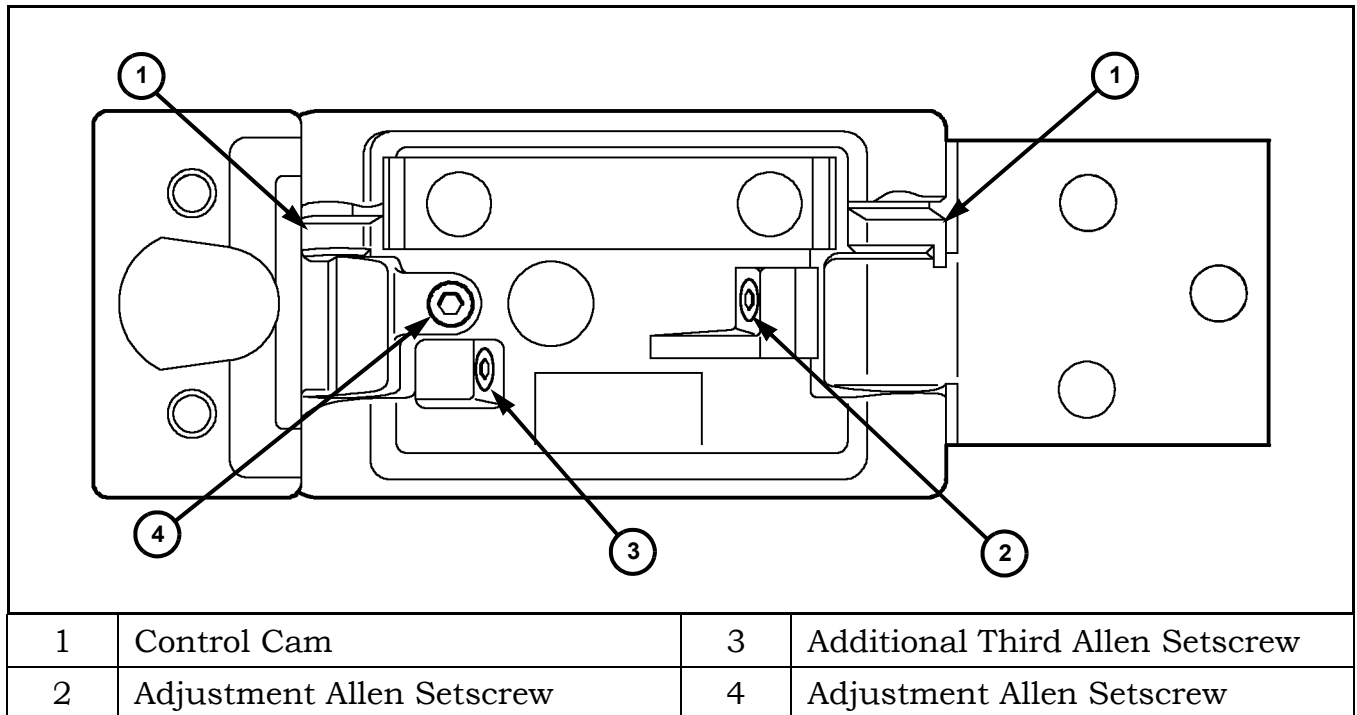

Figure 25 Rear Hinge Adjustment Setscrews
12. Check and adjust the hinges. On rear doors, the retaining magnets should run up to the middle of the mating plate at the side wall. If this is not the case, correct as listed (Figure 25).
NOTE: There are two adjustment allen setscrews on each rear door hinge. In some cases, an additional third allen setscrew may be found (Figure 25).
**CAUTION:** Do not overadjust the allen setscrews (risk of control cam breaking). The adjustment range of the allen setscrews is 1 turn **MAXIMUM**. See Figure 25.